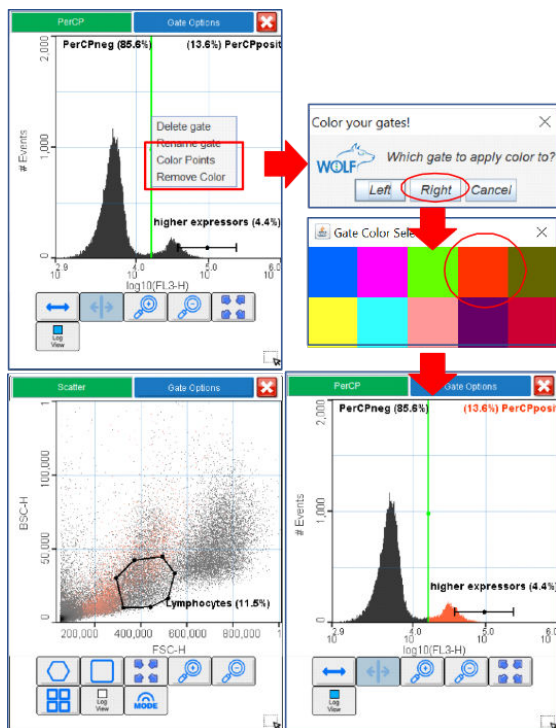

Figure 40. Applying color to gates.
2. Click on the desired color to apply. Gate name and % will be colored too. Set the plot in Regular Mode (black dots) for better display (Fig. 40).